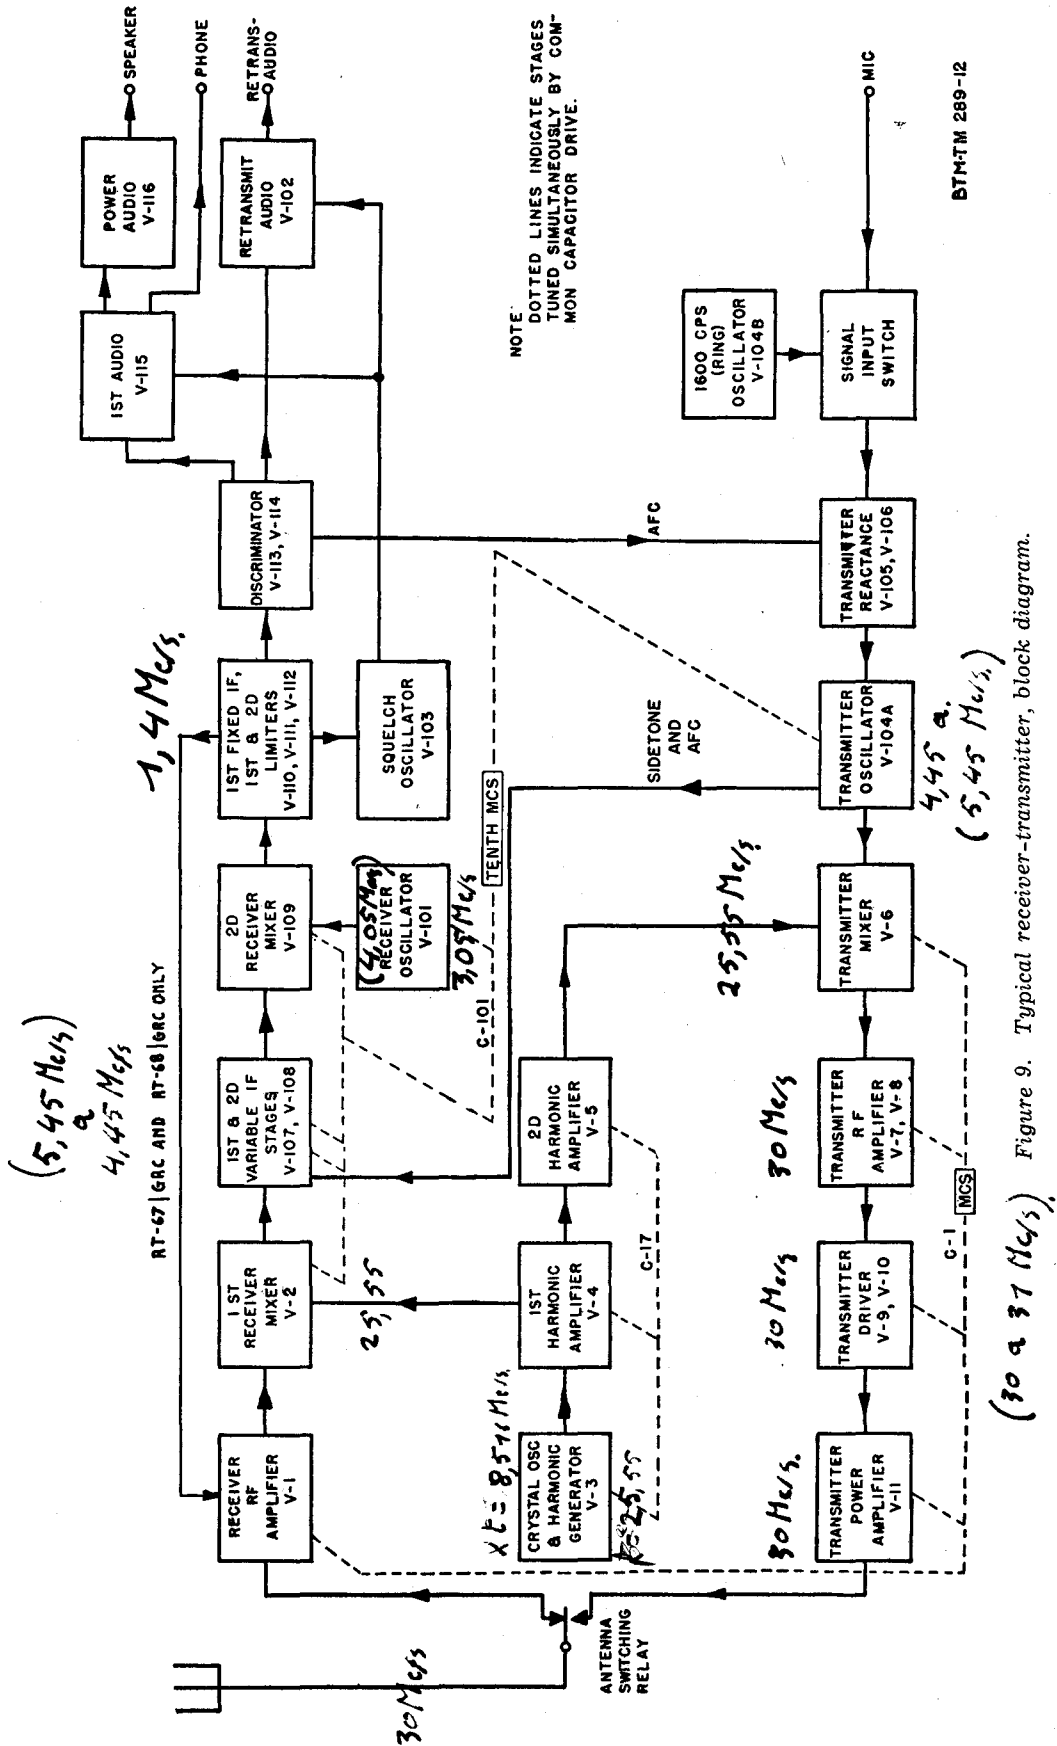

Figure 9. Typical receiver-transmitter, block diagram.
The signal path of a typical Receiver-Transmitter RT-66/GRC, RT-67/GRC, or RT-68/GRC is shown in figure 9. This block diagram applies equally to all three receiver-transmitters. Complete schematic diagrams of the equipments are shown in figures 53, 54, and 55. The block diagram shows that the equipment consists of a separate transmitter circuit and a separate receiver circuit. The two circuits use a common antenna, a crystal oscillator, a harmonic generator, a set of control relays, and a common tuning control arrangement. Normally, the receiver is operative while the transmitter is in a stand-by or inoperative condition. When the microphone button is closed or when a switch on a control unit associated with the equipment in a given installation is operated to the required position, the receiver is effectively turned off and the transmitter is turned on. This function is accomplished when the ground return to the relay circuits is completed. The function of the transmitter is to convert speech signals from an external microphone, an amplifier, a telephone line, or another suitable a-f (audio-frequency) source into an f-m carrier signal. This is accomplished by causing the a-f signals to shift the frequency of an r-f oscillator, the output of which is mixed with a fixed r-f frequency, to obtain the desired carrier frequency. The resultant modulated carrier frequency is transmitted over the air. The function of the receiver is to accept f-m carrier signals and to convert them into the originally transmitted audio signals. The frequency range of the receiver-transmitter depends on the particular set involved (fig. 2). The range of the receiver-transmitter is divided into a number of preset 100-kc channels. Optionally, continuously variable tuning may be used. In addition to the main receiver and transmitter circuits, auxiliary circuits are provided. These include a ringing oscillator for the purpose of transmitting a 1,600-cycle call signal. Test circuits are also included to permit rapid spot checking of key receiver and transmitter circuits. The frequency conversion process for both the transmitter and the receiver is discussed briefly in paragraph 12. Paragraph 13 discusses the tuning arrangement provided for selecting the desired operating frequency. Paragraph 14 describes the control circuits which are common to the transmitter and to the receiver. Paragraphs 15 through 18 constitute a
12. Transmitter Carrier Frequency and Receiver I-f Generation (fig. 9)
As shown on the block diagram (fig. 9), three oscillators serve to produce the transmitting carrier frequencies and the two intermediate frequencies of the receiver. Two of these are continuously variable, and one is adjustable in 1-mc steps. The transmitter and receiver are tuned to the same frequency at all times. The tuning arrangement (par. 13) coordinates the tuning of these three oscillators with one another and with the signal paths.
15. Transmitter Circuits, Block Diagram (fig. 9)
16. Receiver Circuits, Block Diagram (fig. 9)